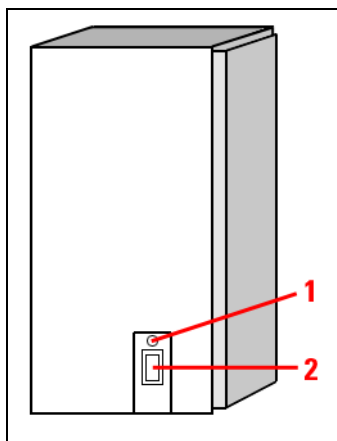

Figure 70: Microscope electronics box
6. Turn on the microscope by actuating the electronics box toggle switch (**Figure 70, item 2**). The microscope is operating once the readiness indicator (**Figure 70, item 1**) on the toggle switch is lit up.